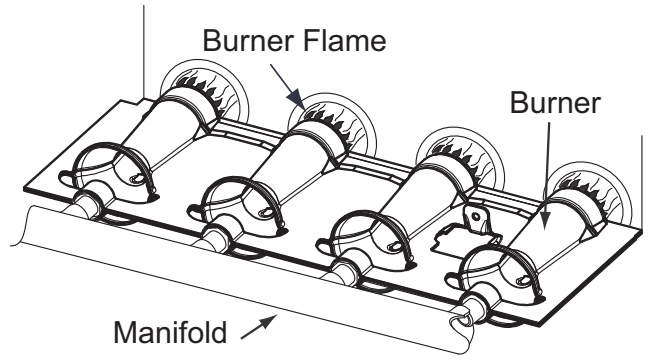

Fig. 71 - Burner Flame
8. Reverse items 6 through 1 for reassembly.
11. Check furnace operation through 2 complete heat operating cycles. Look at burners. Burner flames should be clear blue, almost transparent. See Fig. 71.